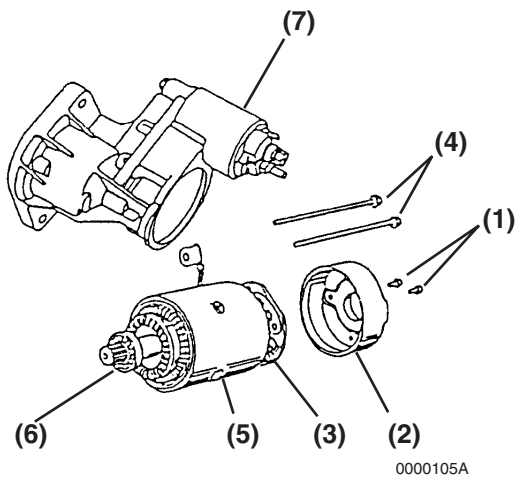

Figure 11-4
2. Remove the two M4 bolts (Figure 11-4, (1)) securing the rear cover (Figure 11-4, (2)) to the brush holder assembly (Figure 11-4, (3)).
3. Remove the two M5 through bolts (**Figure 11-4, (4)**). Separate the rear cover (**Figure 11-4, (2)**), field coil assembly (**Figure 11-4, (5)**) with the armature assembly (**Figure 11-4, (6)**) from the gear housing (**Figure 11-4, (7)**).